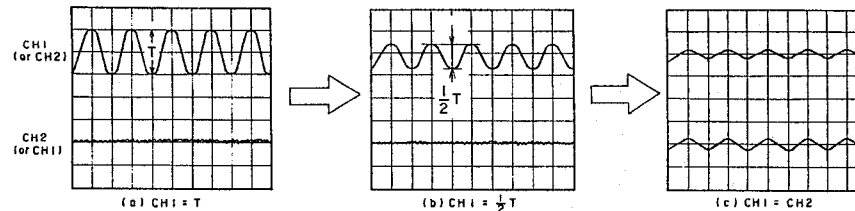

Fig. 4-14
- 3) Turn the hexagon screw to obtain 1/2 of the output level of either CH-1 or CH-2, whichever has an output signal as shown in Fig. 4-14. Then set both of the oscilloscope's channels to 100 mV/div and finely adjust the hexagon screw until both signals of CH-1 and CH-2 are nearly the same level.